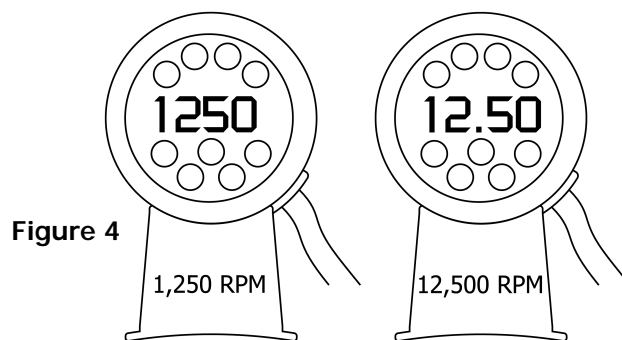

Figure 4
**NOTE:** When scrolling above 9990 RPM, a decimal point will appear in the center of the display to indicate that the far right digit will not be displayed (refer to figure 4).